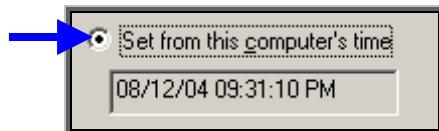

Figure-5.7.3
- ◆ The center window shows the date and time set for the Maintenance PC (Figure-5.7.3).
- ◆ Ensure that the “Set from this computer's time” option is active, as shown in Figure-5.7.3.